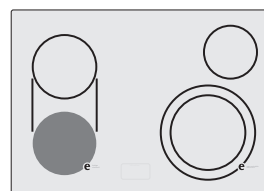
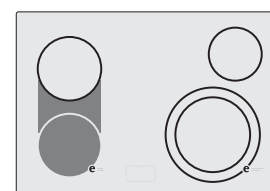

Fig. 5
Fig. 6
2. Push in and turn the control knob counterclockwise (See Fig. 3 and Fig. 5) to heat the portion of the Bridge element for normal shaped cookware or clockwise (See Fig. 4 and Fig. 6) for larger or rectangular shaped cookware.